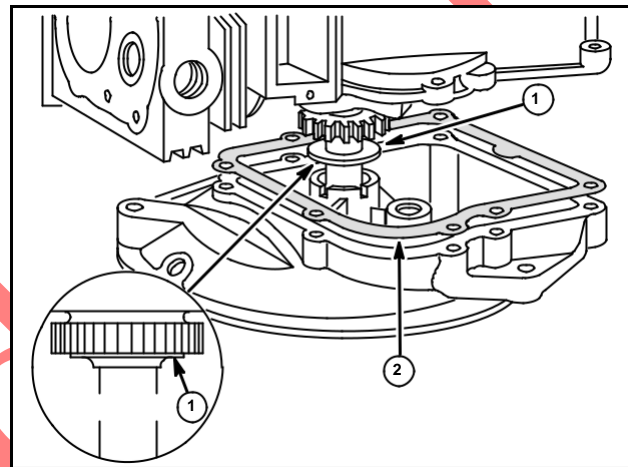

Fig. 23
If end play is less than required, use additional gaskets (2), .005" (.13 mm), .009" (.23 mm), or .015" (.38 mm) alone or in combination, to adjust, Fig. 23.
NOTE: If end play exceeds specification with one .015" (.38 mm) thick gasket, a thrust washer (1) is available for use on the P.T.O. end of the crankshaft (except Model Series 100700, 120000, flywheel end only), with additional .005" (.13 mm), .009" (.23 mm) or .015" (.38 mm) gasket to reduce end play, Fig. 23. Gaskets (2) are available in thicknesses of: .015" (.38 mm), .009" (.23 mm), .005" (.13 mm).